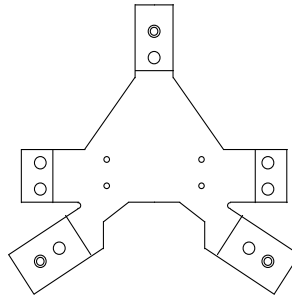

Figure 2-11
- f. The standard lampchanger/flasher bracket is replaced with a one piece "lantern spider" (Figure 2-11) that supports both items and the lens.